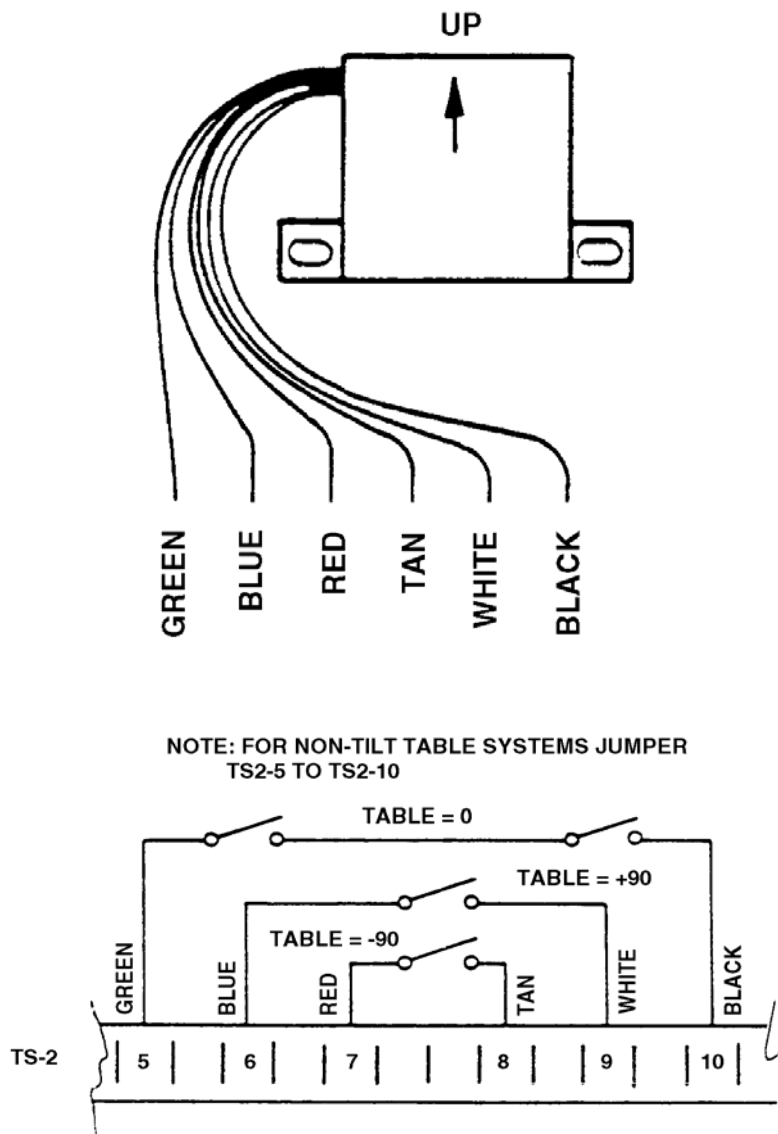

Figure 1-8. Table-tilt monitor connections.
(1) Position the table at +90 degrees upright (usually about an actual +85 degrees) and angle the collimator to a +90 degree (LED-1 "ON") beam-left position. Slowly tilt the table 20 degrees down from the maximum upright position (+70 degrees). Light-emitting diode-7 must be ON at a maximum upright and remain ON until the table is angled down to +79 degrees. (Light-emitting diode-1 will also be ON).
(2) Angle the table to -90 degrees Trendelenburg and angle the collimator to -90 degrees beam-right (Light-emitting diode-5 ON). Slowly tilt the table 20 degrees down from the maximum-Trendelenburg position. Light-emitting diode-6 should be ON and remain ON until the table is angled down to -79 degrees. (Light-emitting diode-5 will also be "ON").
(3) The tilt monitors must meet the above requirements. If the tilt monitors do not pass each requirement listed, take the following corrective actions.
(4) If a tilting table is installed as part of the system, it is necessary to mount the table-tilt monitor to transfer angular-position information to the collimator. Proper orientation of the monitor is shown in figure 1-7. Remove the jumper between TS2-5 and TS2-10. Connect the table-tilt monitor as shown in figure 1-8.